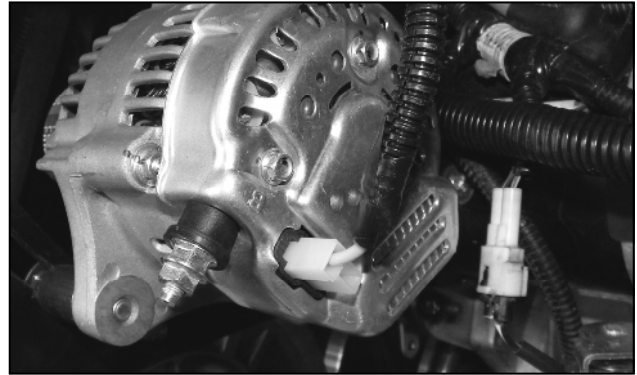

Fig. 4.11 (Connect to Alternator)
- 4.11** Route the white plug on the pink wire of the controller harness out into the engine compartment. Connect this to the alternator once that item is installed. Only the top terminal of the "T" on the plug is used. Figure 4.11.